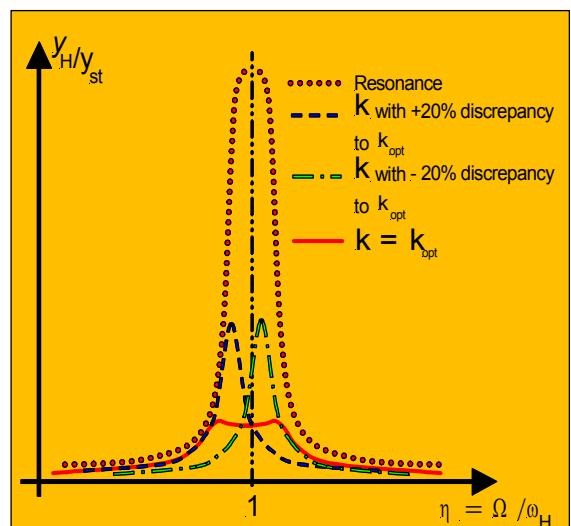

Fig. 6: Behaviour of main system if deviation varies
- Frequency:** To achieve the best possible mitigation of the main system vibration, the natural frequency of the TMD has to be calculated in a certain ratio to the natural frequency of the main system, means both frequencies must not be identical. The ratio between them is called deviation k or to be out of tune respectively (Fig. 6).